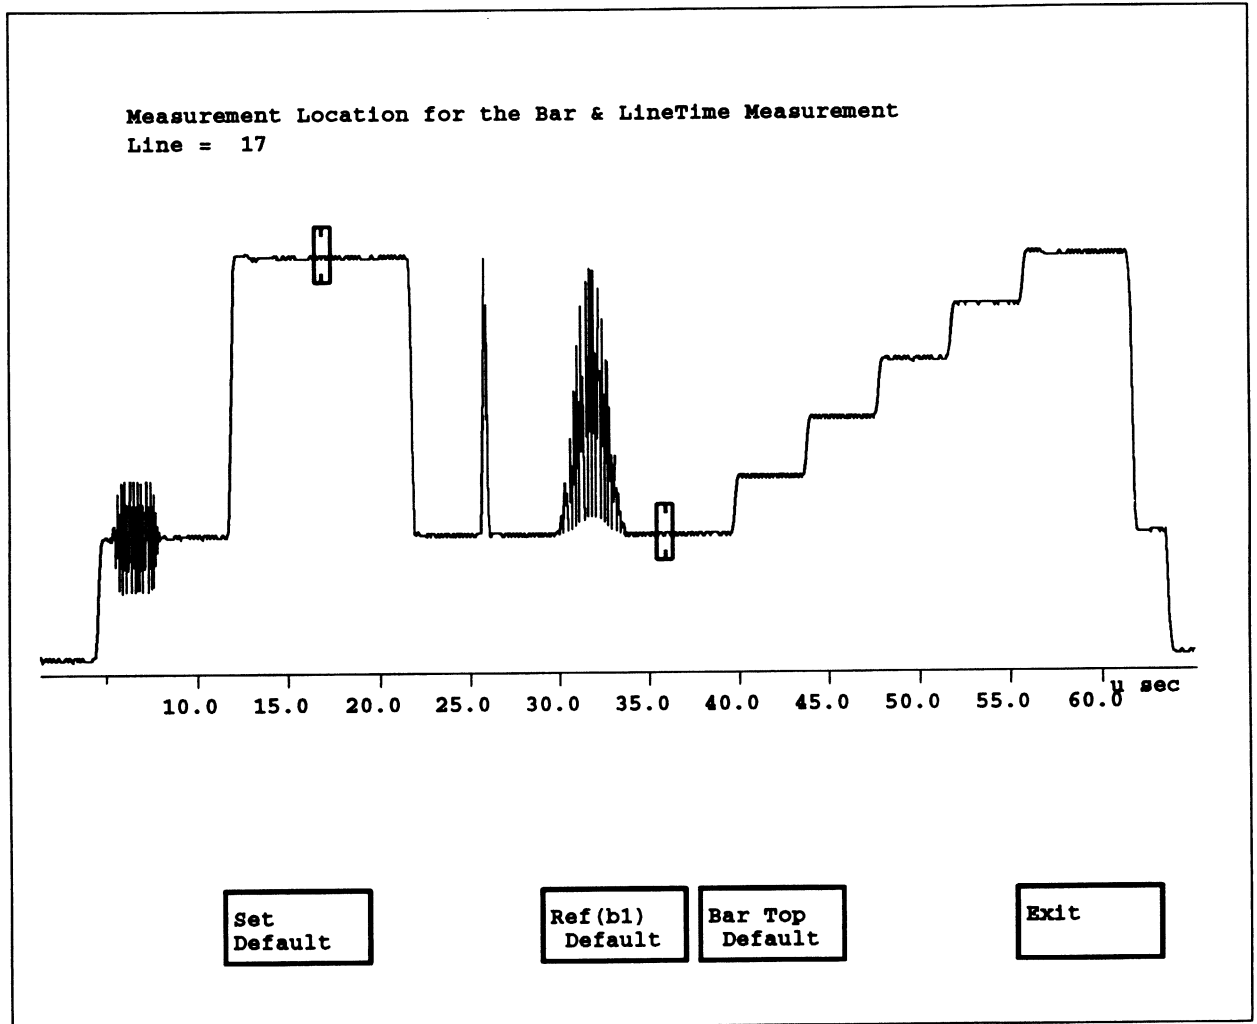

Figure 2-3. Bar LineTime special position display.
**Special Position** displays the Special Position submenu and a waveform display (Figure 2-3) used to set the location on the waveform where the measurement is made.